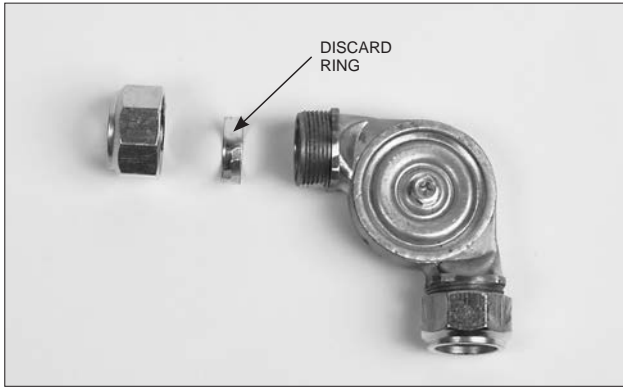

FIGURE 5-62
1. Unscrew the nut from pulley elbow, pulley tee, or EMT conduit connector and remove the compression ring. Discard ring. See Figure 5-62.